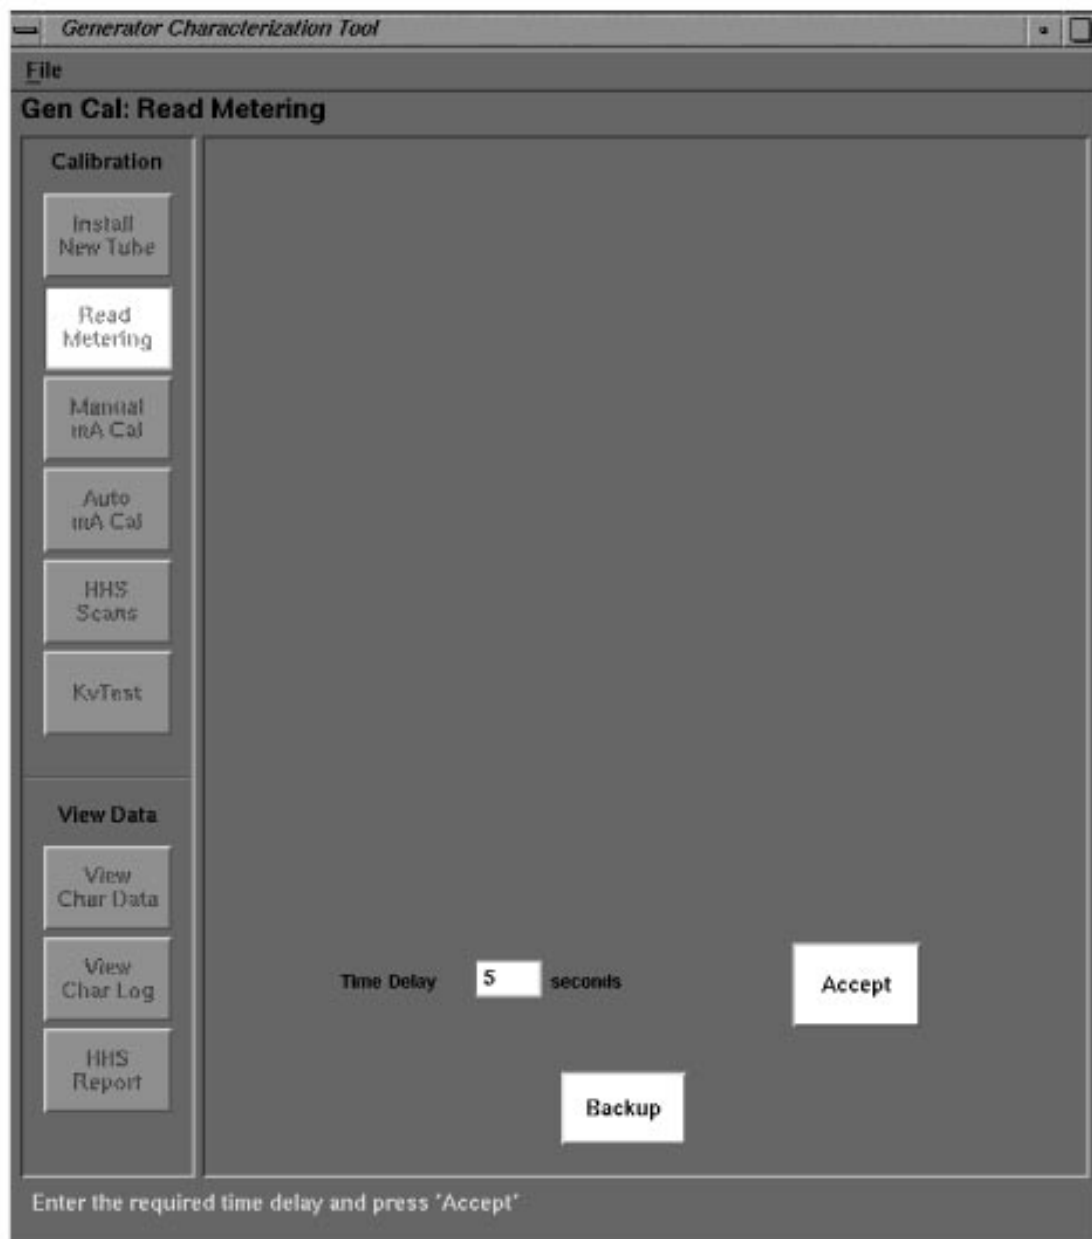

Figure 9-5 Read Meter Screen
- 3.) Compare the data in the "Delta" column on the Read Meter screen (Figure 9-5) to the data in the "Limit" column.
- 3.) Select READ METERING (Figure 9-5)